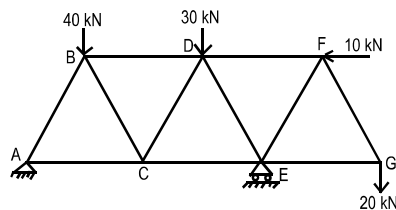

Fig. 3
2. (a) What do you mean by: (i) Perfect Frame, (ii) a deficient frame, and (iii) a redundant frame? (6)
- (b) Analyse the truss shown in Fig. 3. All members are 3 m long. (14)